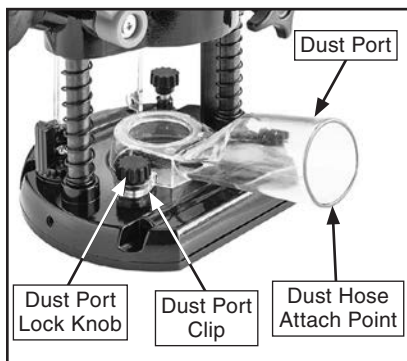

Figure 11. Dust port installed.
1. Loosen dust port lock knob and slide dust port clip and dust port into position, then tighten knob (see **Figure 11**).
2. Fit 1½" hose over dust port and secure in place with hose clamp (see **Figure 11**).